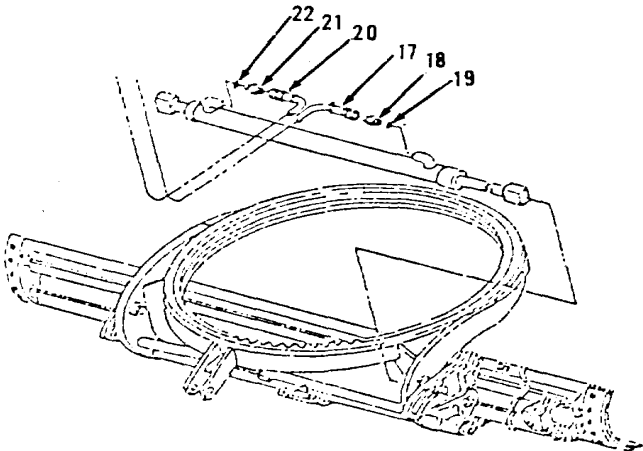
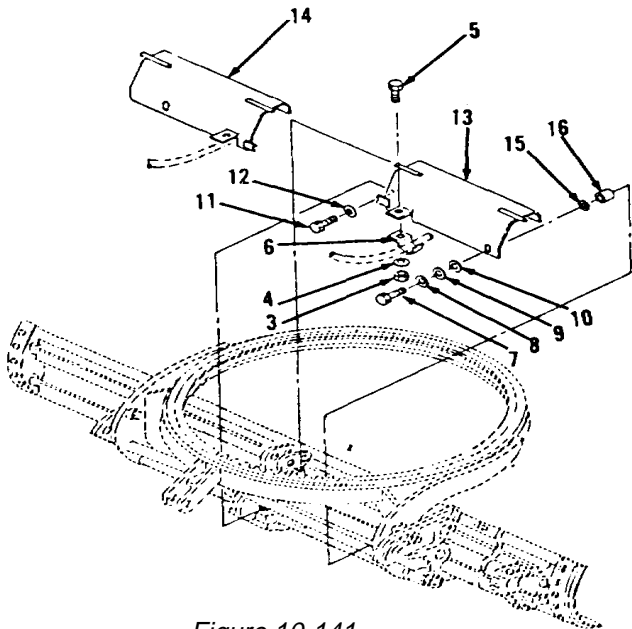

Figure 10-142.
Figure 10-141.
- 9. Install new preformed packing (22) and connector (21, Figure 10-142).
- 10. Connect hose assembly (20).
- 11. Install new preformed packing (19) and connector (18).
- 12. Connect hose assembly (17).
- 13. Position two spacers (16), washers (15) and guards (14 and 13, Figure 10-141).
- 14. Install two washers (12) and bolts (11).
- 15. Install two spacers (10), washer (9 and 8) and two bolts (7).
- 16. Install two clamps (6), bolts (5), washers (4) and nuts (3).